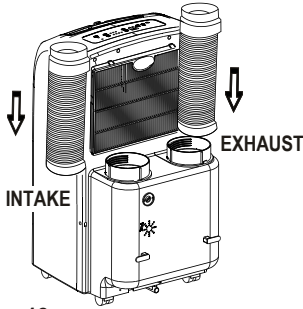

Fig. 13
1. Install flexible intake and exhaust hoses on collars in the back of the unit (Fig. 13).